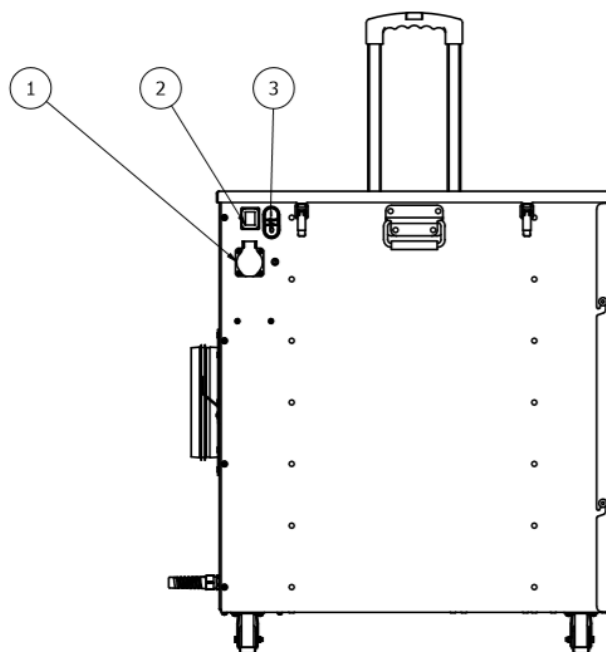

Fig. 4. Device start-up
- Adjust expected efficiency by placing the main switch [2] to position „I” – low efficiency or „II” – high efficiency Fig. 4.